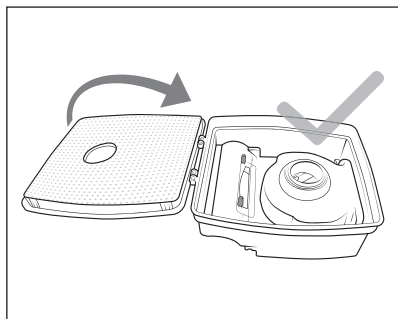

Fig. 11
- 7) Fasten the EPA filter **7** on the lid of the dust container **12** and close it (see Fig. 11).